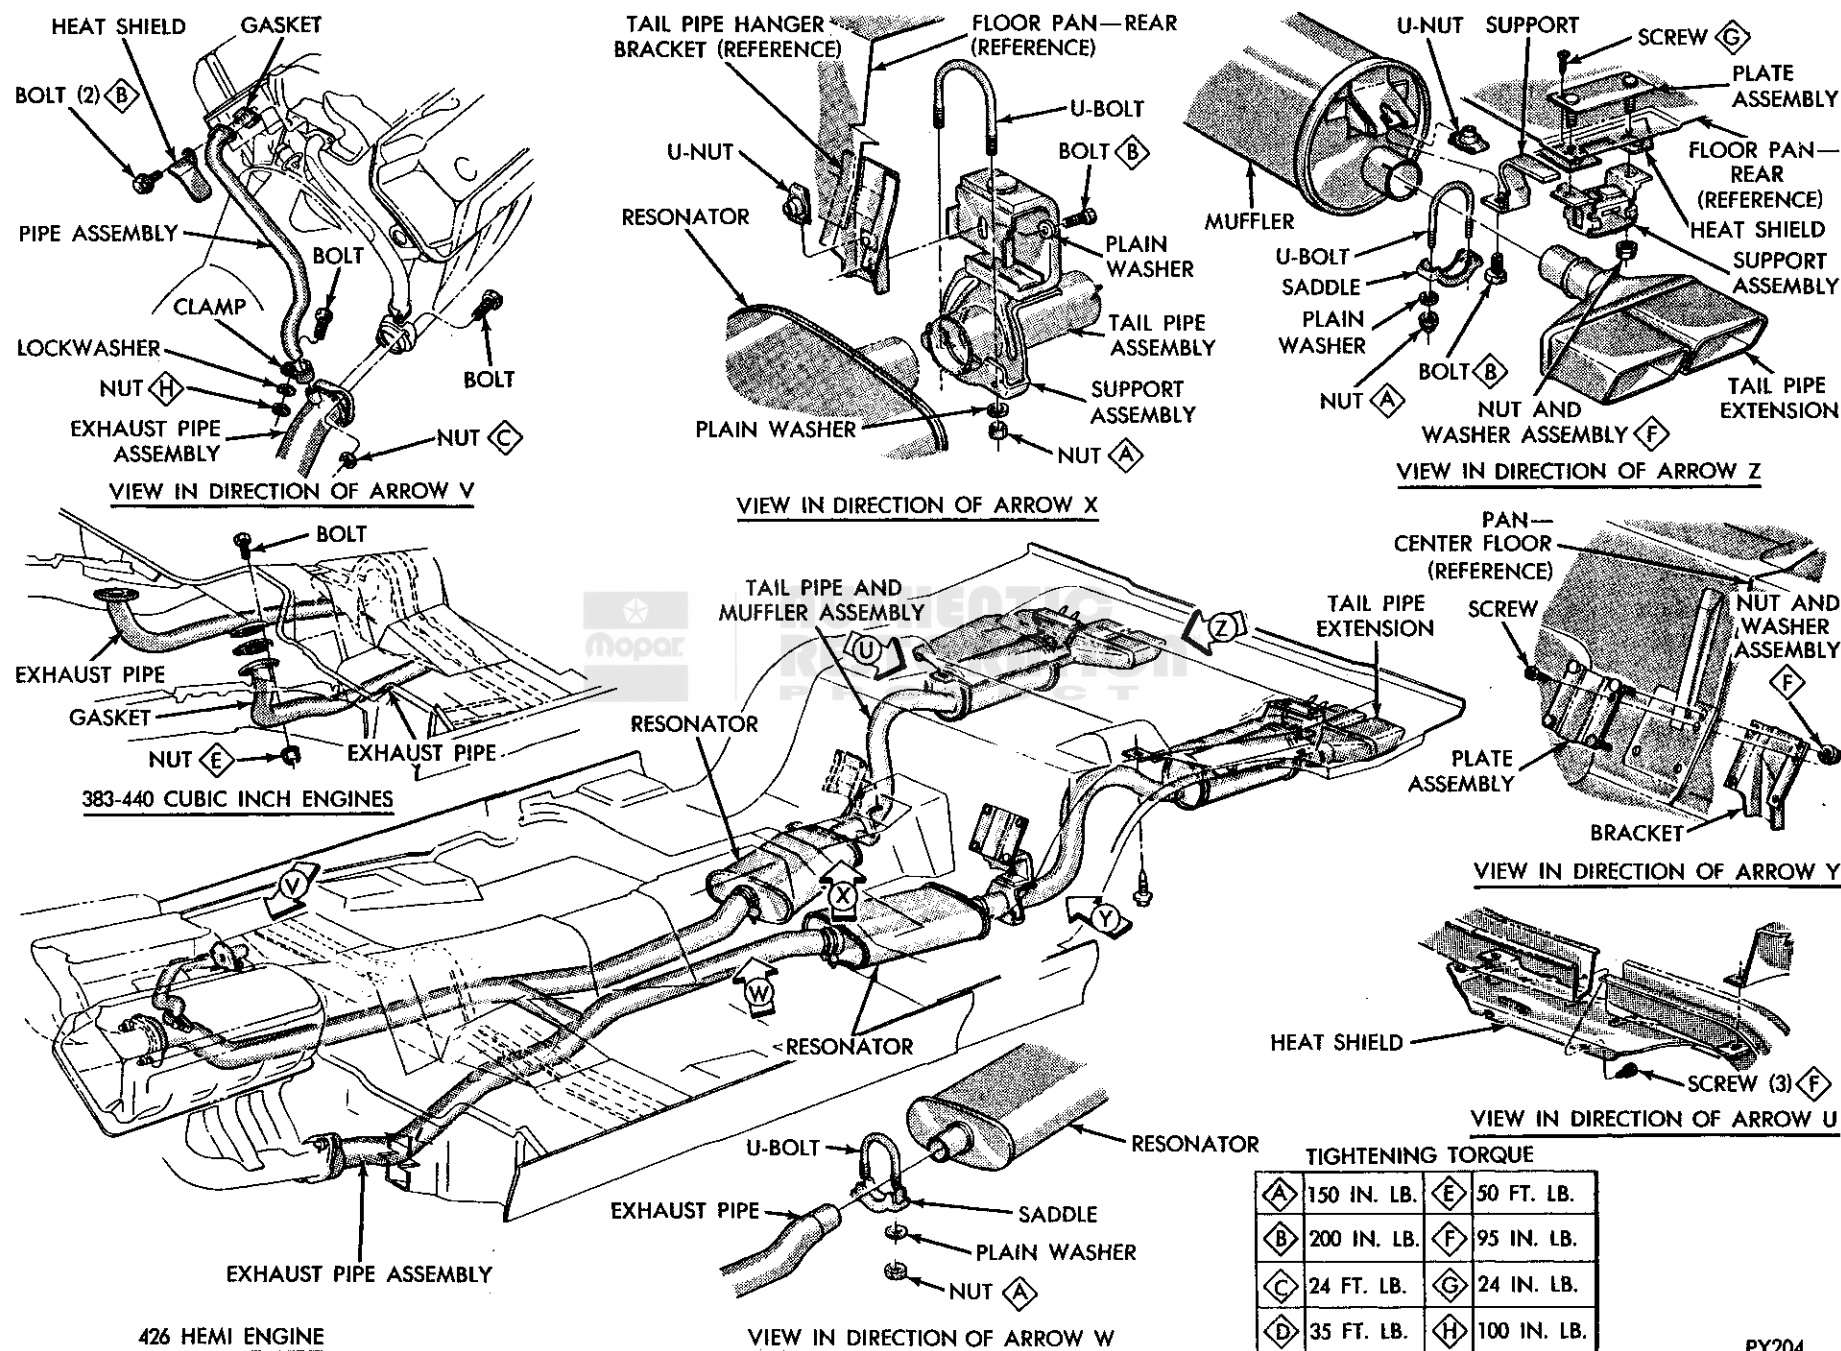

Fig. 5—Dual Exhaust System (Challenger 340, 383-4V, 440-4V, 440-6V and 426 Hemi Engines)
On models with the 426 Hemi engine, also remove heat tube clamp bolt, nut, clamp and heat tube from exhaust connection (Fig. 5).
(1) Assemble exhaust pipes, mufflers, resonators and tail pipes loosely to permit proper alignment (Fig. 5).
(2) Assemble exhaust pipes to exhaust headers, but, do not tighten ball joint nuts at this time.
(3) Adjust muffler and tail pipe supports to provide proper clearance with underbody and adjacent parts. Do not fully tighten attaching bolts and nuts at this time.
- (1) After the muffler is approximately located, place the U-bolt and saddle assembly over the muffler nipple.
- (2) Insert the chrome extension loosely into the muffler nipple (Fig. 5).
- (3) Attach the blade (which is still in rubber block) to the muffler support and tighten to 200 inch-pounds.
- (4) Align the extension with approximately 1/2" clearance at the top and sides.
- (5) Secure the U-bolt with 150 inch-pounds.